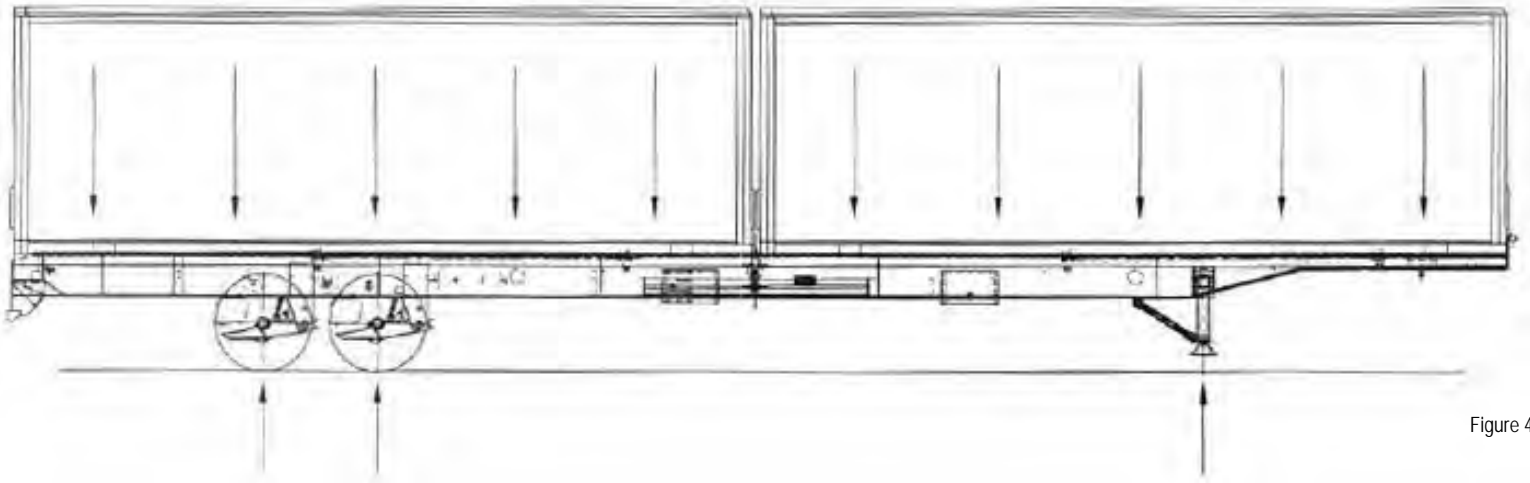

Figure 4
1. Trailers are designed for uniform load distribution as shown in Figure 4. The load should be distributed equally between the front and the rear of the trailer.